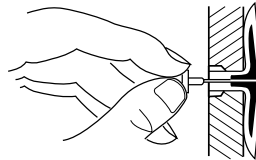

Figure 11 - Popping Open Anchor Wings For Thin Walls
4. For thin walls (1/2" or less), insert red key into wall anchor. Push red key to "pop" open anchor wings (see Figure 11). **IMPORTANT:** Do not hammer key! For thick walls (over 1/2" thick) or solid walls, do not pop open wings.